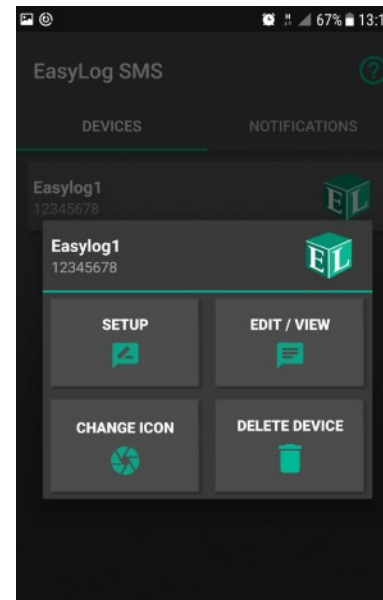

Fig. 4
- 5. To configure the device, tap the device name in the list to bring up the options menu (See Fig. 4).